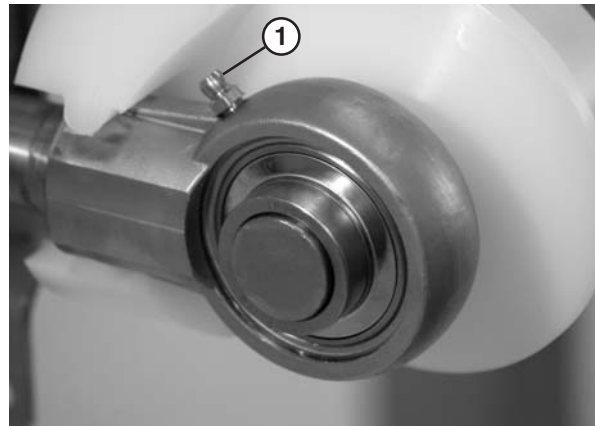

Figure 55
1. Add grease to the bearing using the zerk fitting (Figure 55, item 1) on the exterior of the bearing shaft assembly.